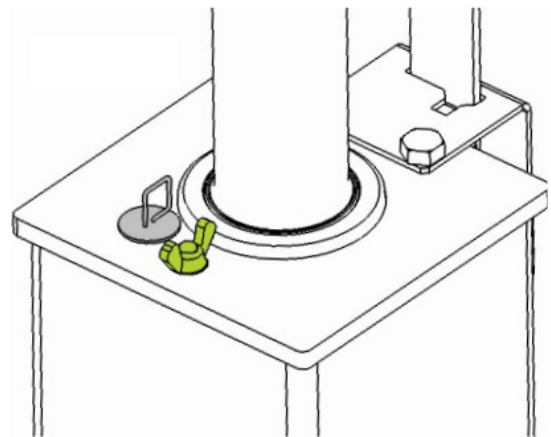

Figure 8
1. Unscrew the air plug. remove from the buffer and keep safe (GREEN in Figure 8).
2. Wipe dipstick clean. (GREY in Figure 8)